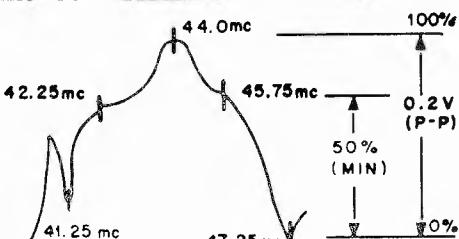

FIG. 6
18. Re-adjust generator output to produce a 0.2 volt P-P indication on the 'scope and observe the response. The curve obtained should conform to Fig. 6.